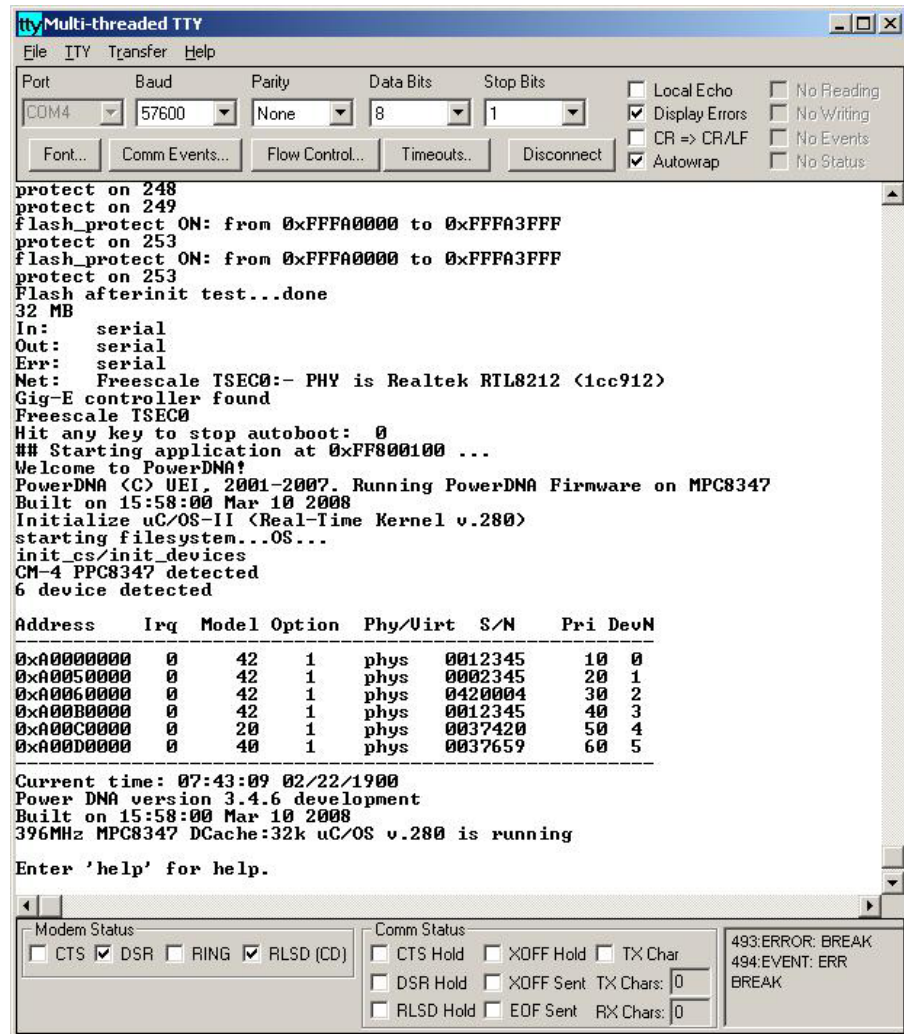

Figure 2-1. Typical MTTY Screen
STEP 5: As soon as the system powers up, it runs through self-diagnostic mode and generates output on the terminal program. A typical readout might be as shown in **Figure 2-1**: